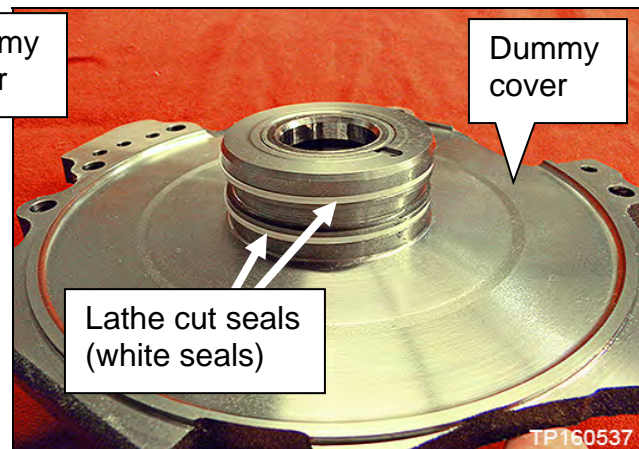

Figure 20B
- Do **NOT** remove the lathe cut seals (white seals, Figure 20B) from the dummy cover. These seals will be reused.